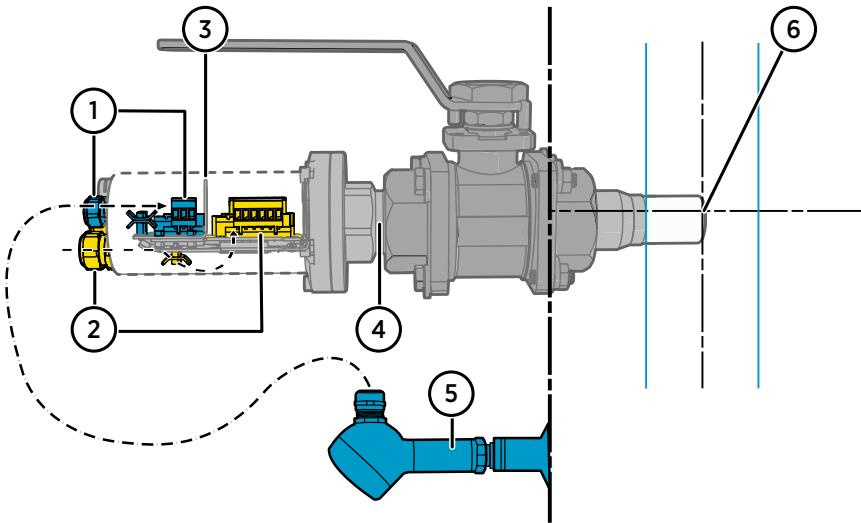

Figure 2 MGP260 series probe installation example with wiring routes and recommended orientation and depth
Figure 2 (page 11) shows an example MGP260 probe ball valve installation. The figure highlights the correct wiring routes and shows the recommended installation depth and orientation. An external pressure measurement instrument (item 5) is shown as an example of pressure compensation input options: for a description of alternative options, see Pressure compensation input options \(page 12\).
Figure 3 \(page 12\) shows the recommended installation position for MGP260. Install the probe in a straight run of pipeline, ≥ 5 pipe diameters downstream of the closest bend or other feature affecting gas flow, and ≥ 2 pipe diameters upstream to the next bend or similar feature. For best results, use the orientation and installation depth shown in Figure 2 \(page 11\).
- Pressure measurement received from an external pressure measurement instrument through the Ex ia (4 ... 20 mA) input terminals on the MGP260 component board. This is the recommended option: for an example, see Figure 2 \(page 11\). The wiring of the external pressure instrument input is shown in Wiring diagram \(page 18\).